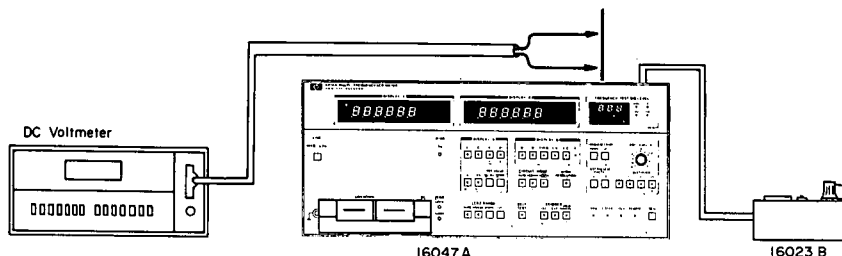

Figure 5-14. A21 (or A23) Internal DC Bias Supply Adjustment (0 to ±35V).
b. Set 16023B DC Bias Controller thumbwheel switch to 0.00 and connect its 24 pin male connector to BIAS CONTROL connector on the rear panel of the 4274A. See Figure 5-14.
- b. Set 16023B DC Bias Controller thumbwheel switch to .000 and connect its 24 pin male connector to Bias Controller connector on the rear panel of 4274A. Refer to Figure 5-14 except for the difference in test pins and board number.